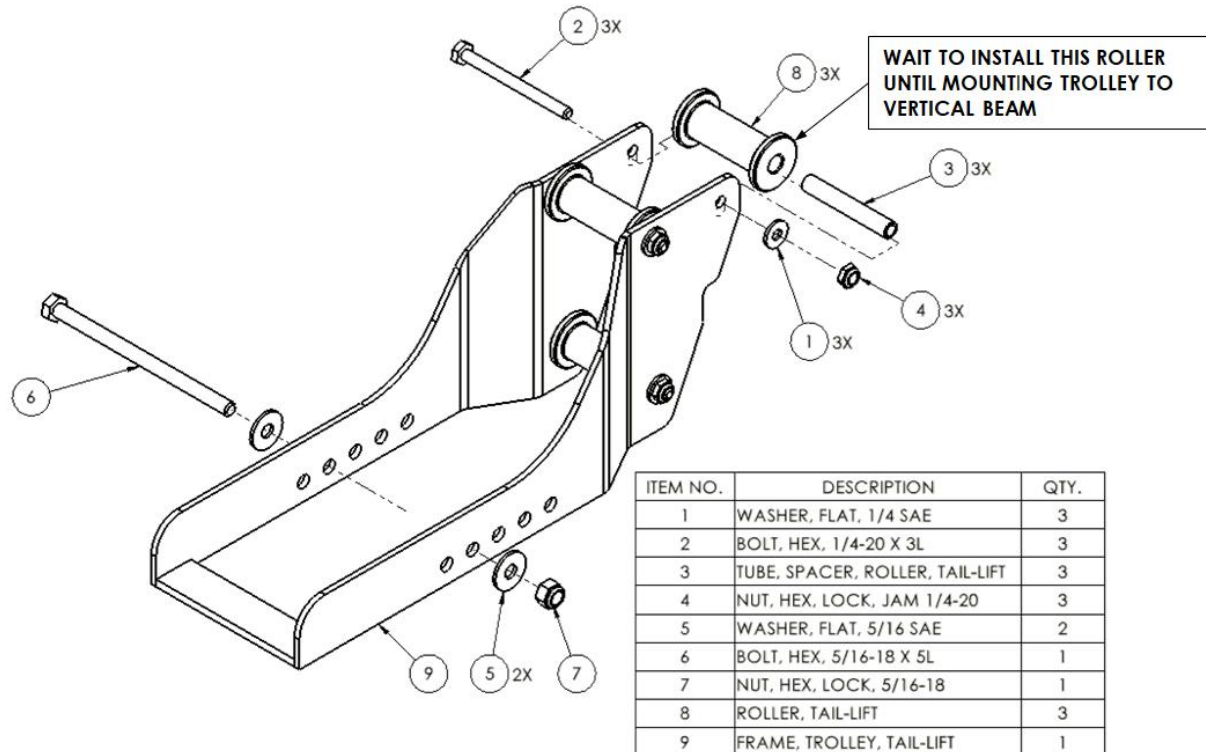
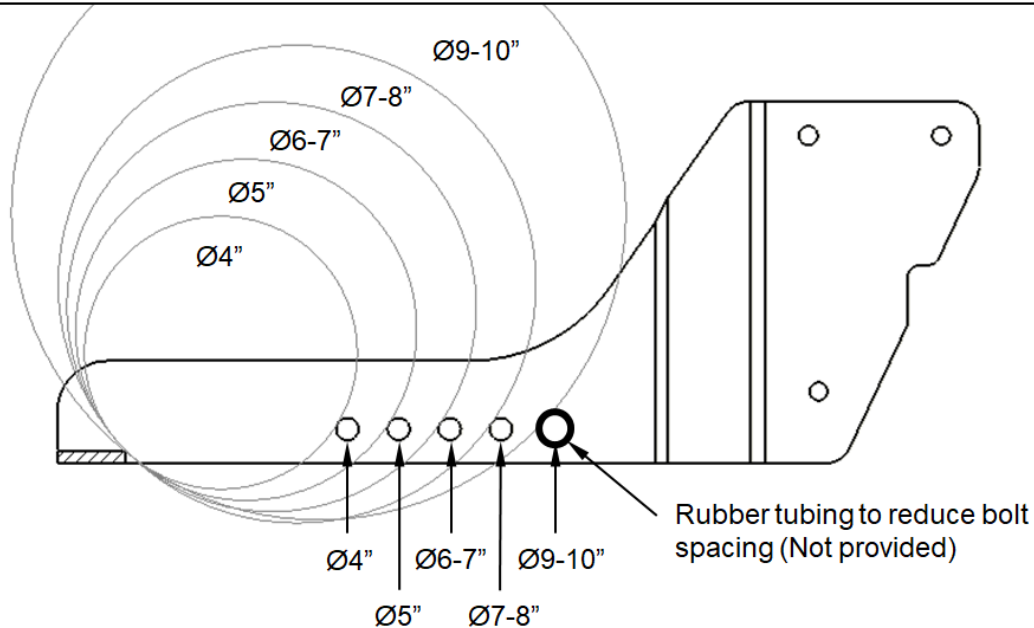

Figure 5
Figure 8
Trolley Assembly (Figure 5)
Trolley Setup For Tire Size (Figure 8)
2. Insert the 5/16 bolt (Item 6, Figure 5) in the corresponding recommended location for the Tire diameter (Figure 8)